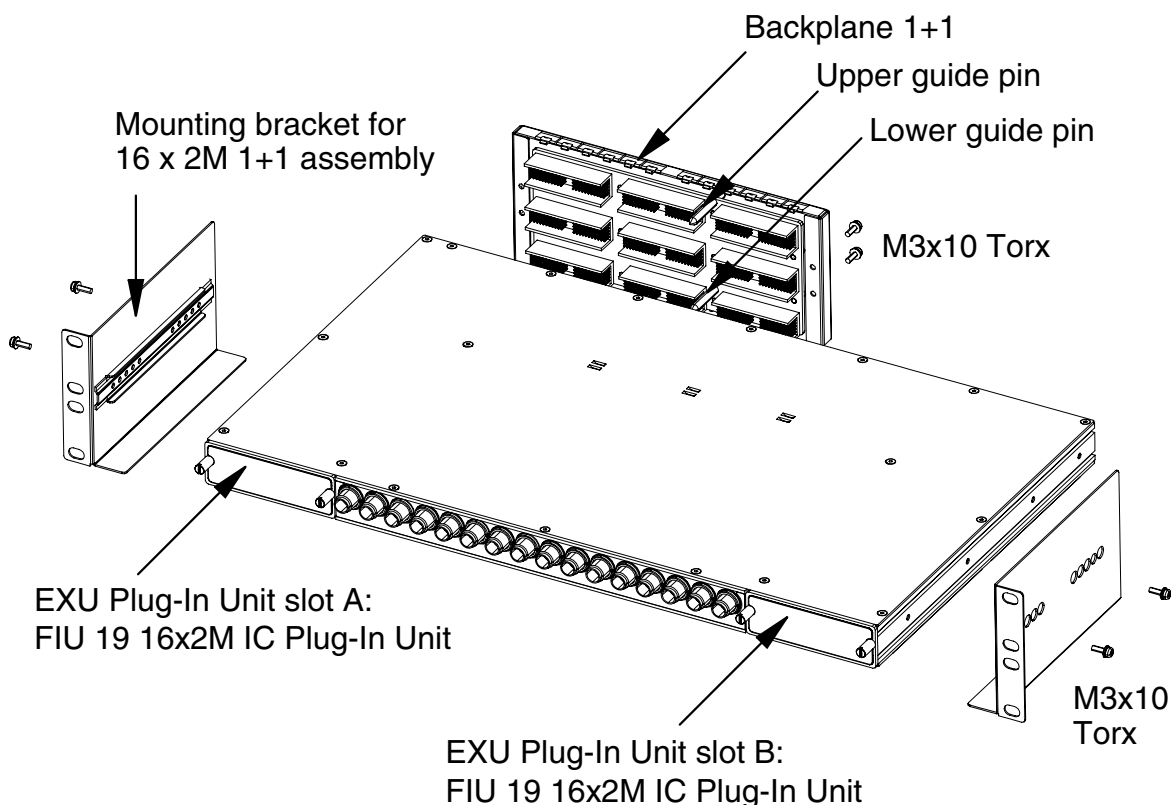

Figure 5. Installing FIU 19 16 x 2M 1+1 in a 19-inch rack, phases 1 – 2
2. Screw the backplane guide pins to their places (Figure 5). Screw the backplane to the expansion unit with four Torx screws.